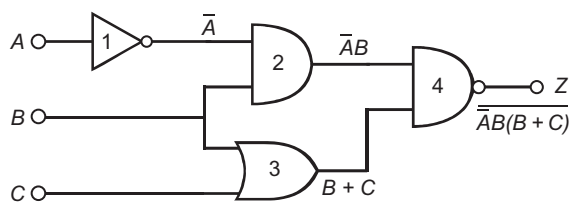

FIGURE 19.2 This logic circuit is analysed by several different techniques in this topic.
In the circuit shown in Figure 19.2, find the outputs of Gate 4 for all possible combinations of inputs if:
Find the output of the circuit shown in Figure 19.2 by labeling the output of each gate with the logical result of its action. Work across the diagram from the inputs to the output. This gives the logical expression for the output shown on the extreme right of the figure. Next, simplify this, using De Morgan's Theorem and other logical identities:
Use a Karnaugh map to simplify the logic circuit in Figure 19.2.
Taking the output column of the truth table shown directly below Figure 19.2, we enter these results into a three-variable Karnaugh map. This has two variables (AB) on one edge and variable C on the other edge (see over). This gives 8 cells in the map, each corresponding to one of the rows in the truth table. Note that the columns and rows are headed in such a way that only one bit in the expression changes as we go from one column to the next.